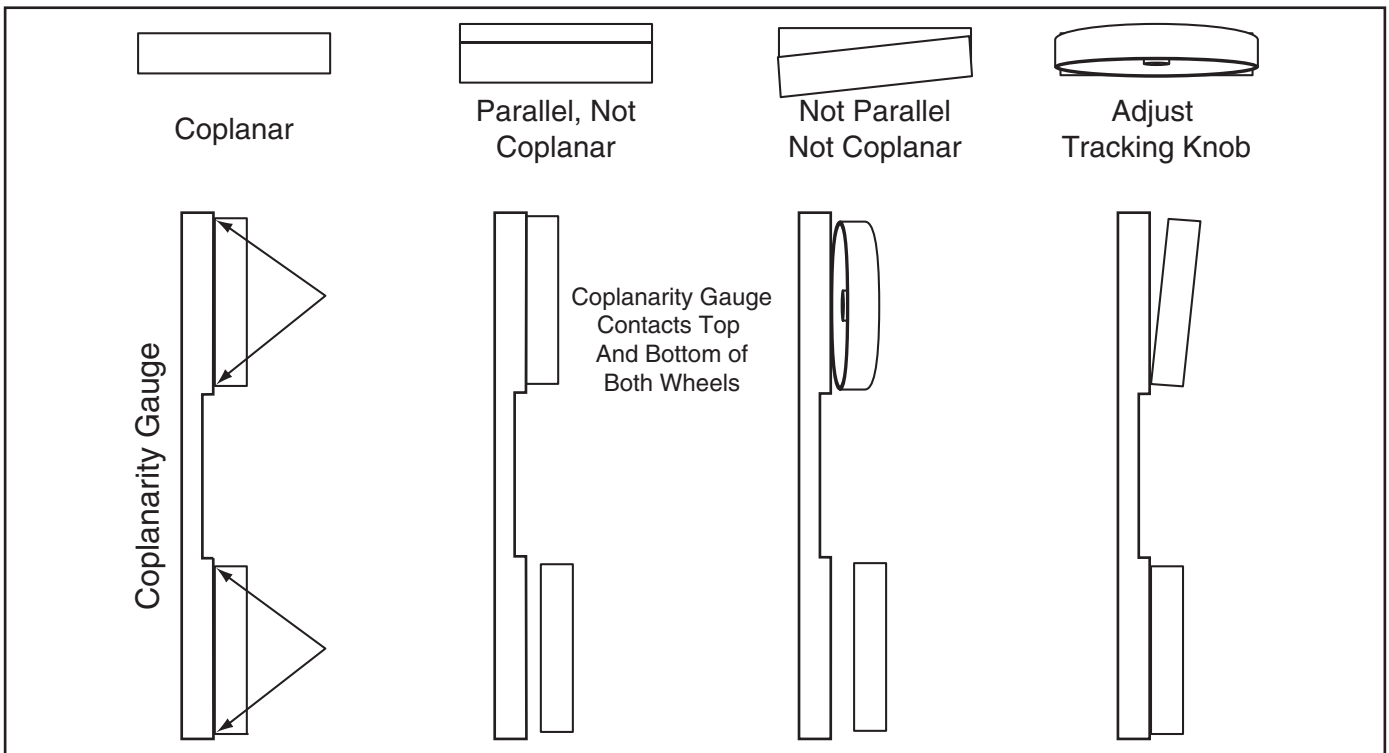

Figure 65. Coplanarity diagram.
7. **Figure 65** shows the positions of the wheels when coplanar. When your wheels are coplanar, readjust the guide blocks and rear support bearings, and replace the wheel covers.